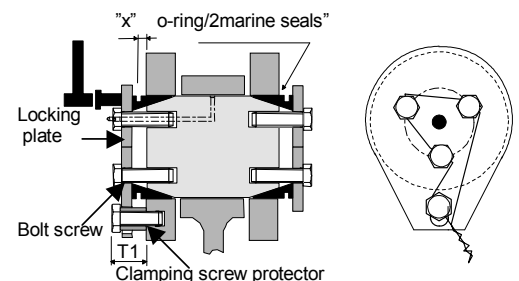

Fig. 3b
- 3.2 Knock with a heavy hammer all around the plate to be sure that the cone sleeves have expanded properly. See fig.3b